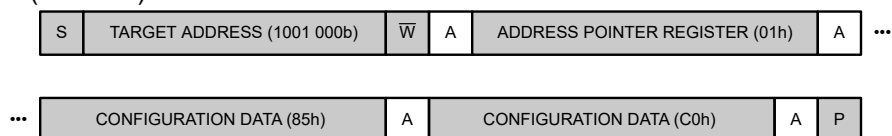
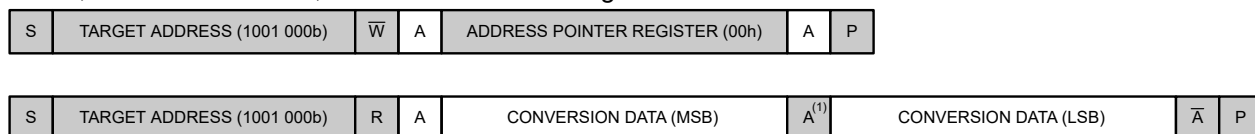
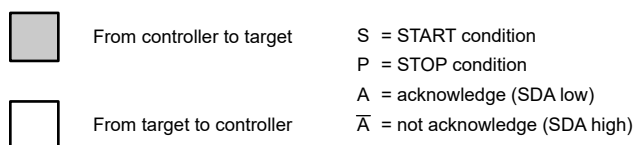

Figure 9-5. Write the Configuration Register
Figure 9-7. Read the Conversion Register
Figure 9-8. Legend for the I²C Sequence Diagrams
- Then, as shown in Figure 9-7, read the Conversion register.
To save time, a new conversion can also be started (step 4) before reading the conversion result (step 3). Figure 9-8 lists a legend for Figure 9-5 to Figure 9-7.